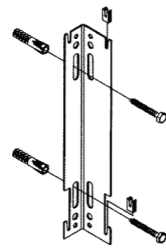

Figure 1: Cornered dual bracket
- After brackets are inserted on the screws, screws are tightened; plastic parts for anti-vibration are installed as shown in the Figure 1 and radiator is located on to the brackets.